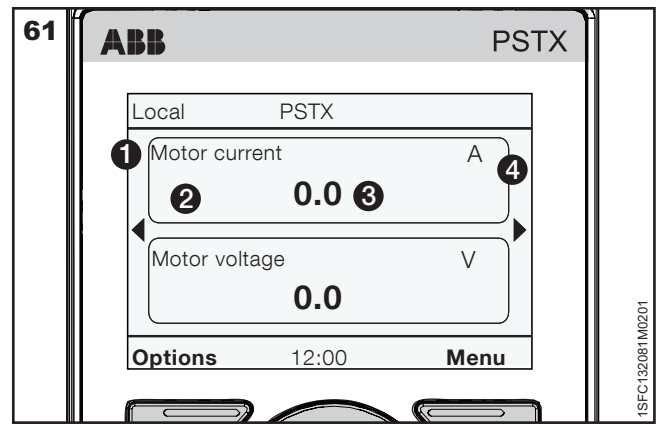

Figure 61: Display slot
**Display signal min as** - Press  "Edit" to choose the scaled minimum value that is to be shown in the Home view. Use the Navigation keys to change value, Press  "Save" to save the value. See ③ in **Figure 61**.
**Display signal max as** - Choose the scaled maximum value that is to be shown in the Home view. Use the Navigation keys to change value, Press  "Save" to save the value. See ③ in **Figure 61**.
**Display unit** - Type in the unit which is to be displayed in the Home view. It is possible to type a unit with up to 10 characters. Use the Navigation keys to change the characters.  "Save" to save the Home view unit name. See ④ in **Figure 61**.